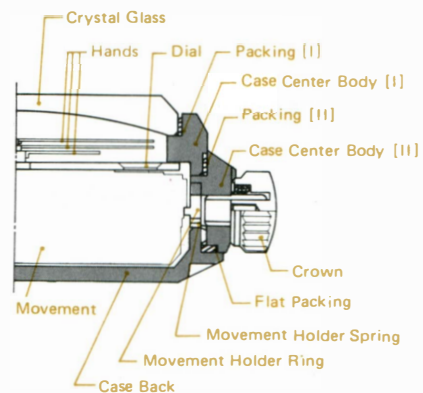

Fig. 3
b. Structure of GN-4W-S (Fig. 3)